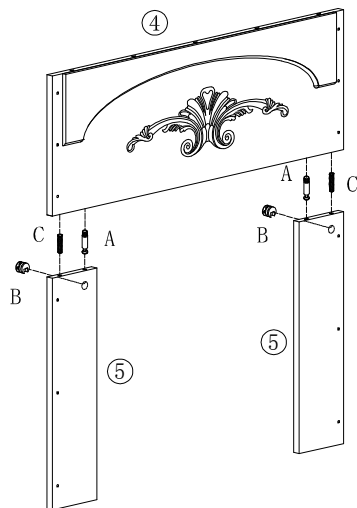

Figure 3
AFTER ASSEMBLED FIGURE 3 ,INSERT (C)WOOD DOWEL TO THE RALATED HOLES OF BASE THEN PUSH THE COMPLETED FIGURE (3) TO THE BACK OF SIDE FRONT PANEL THEN INERT (D)WOOD SCREW TO THE RELATED HOLES TO CONECT (3) SIDE FRONT PANEL.FINALLY USE SCREWDRIVER TO LOCK TIGHTLY.